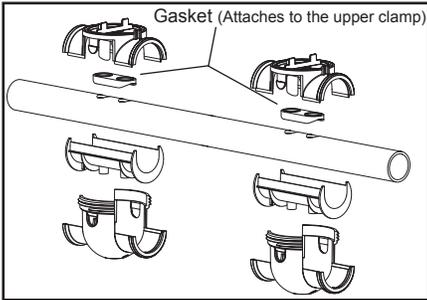
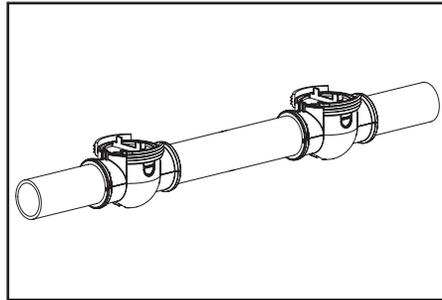

Figure 10. Cell Clamps
Figure 11. Water Flow Arrows
10. Secure the clamps, pipe spacer, and gasket around the pipe as shown (see Figure 10) making sure the flow arrows on the clamp point in the direction of the water flow (see Figure 11 and 12). Make sure the two (2) clips on the sides of the clamp are snapped into place.